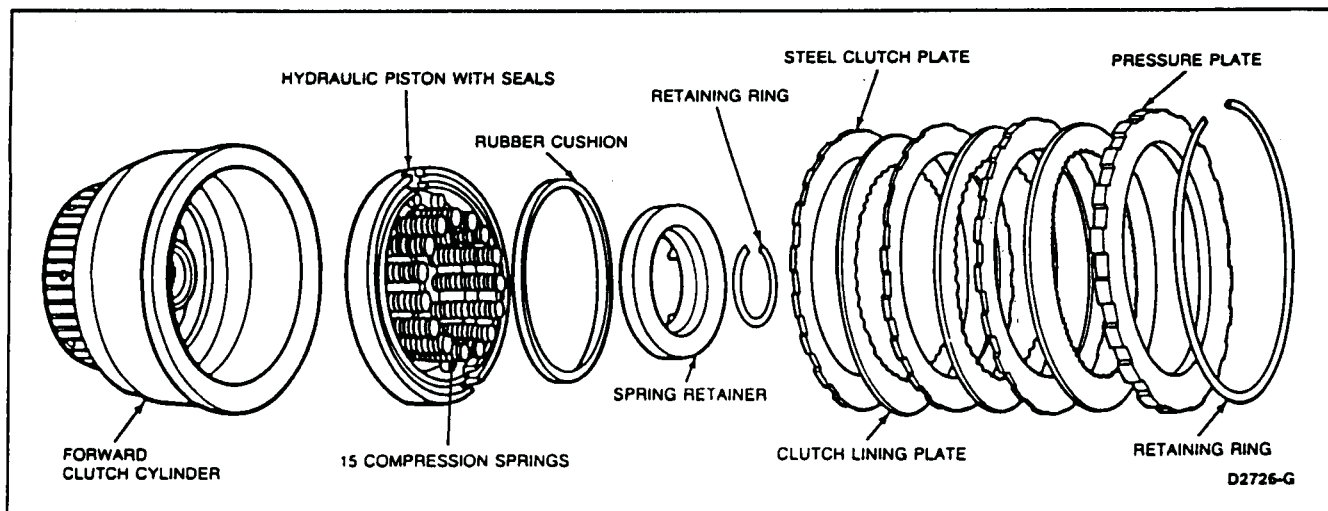

FIG. 31 Forward Clutch
1. Remove the retaining ring and remove the clutch plates and rubber cushion spring (Fig. 31).
5. Install rubber cushion spring, clutch plates and pressure plate in the correct order (Fig. 31) and install the retaining snap ring.